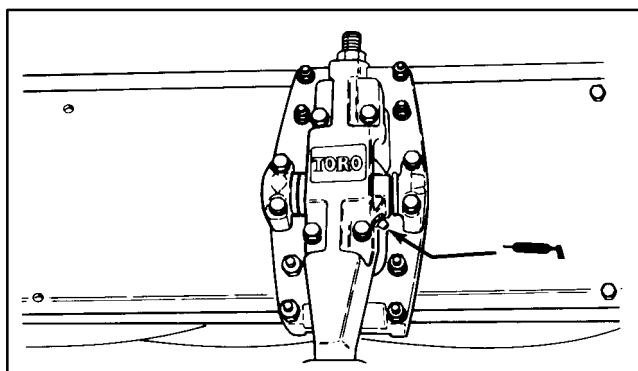
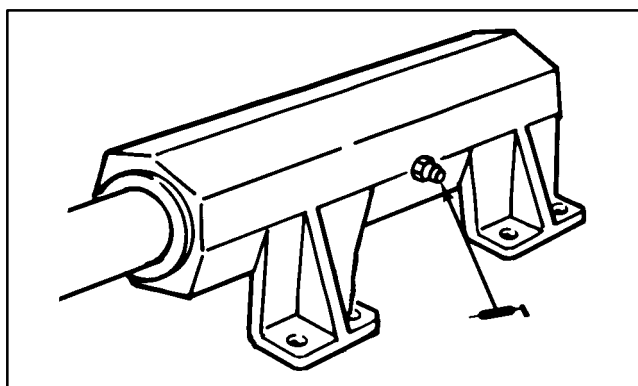

Figure 32
Figure 33
3. Lubricate floatation kit pivots (Fig. 32) and Fixed head pivots (Fig. 33) weekly with one pump of grease.